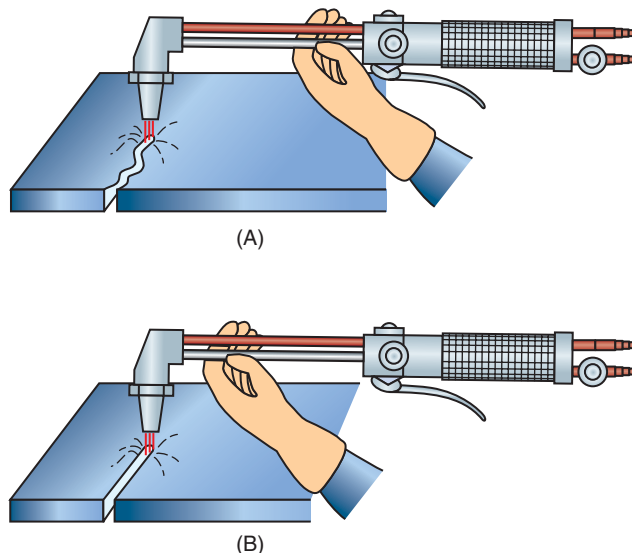

Figure 6.55 Bracing the torch
- *Hot surfaces*—As you continue making cuts to complete the part, it will begin to heat up. Depending on the size of the part, the number of cuts per part, and the number of parts being cut, this heat can become uncomfortable. You may find it necessary to hold the torch farther back from the tip, but this will affect the quality of your cuts, Figure 6.55. Sometimes you might be able to rest your hand on a block to keep it off of the plate. Another problem with heat buildup is that it may become high enough to affect the cut quality. Heat becomes a problem when it causes the top edge of the plate to melt during a cut, as if the torch tip were too large. This is more of a problem when several cuts are being made in close proximity. Planning your cutting sequence and allowing cooling time will help control this potential problem.